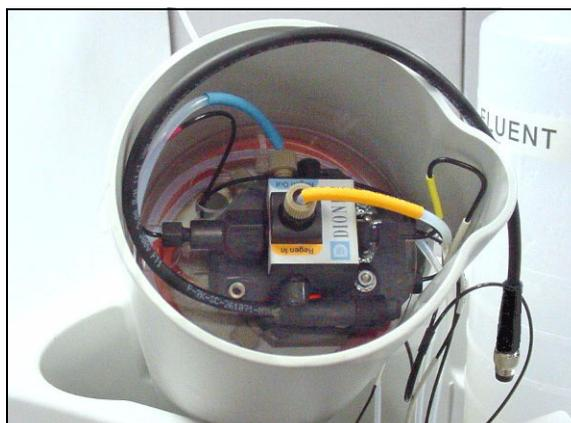

Figure B-31. CR-TC Installed in Holder
5. Check that none of the lines are caught under the CR-TC and then push the CR-TC onto the metal stud inside the EGC holder (see Figure B-31). Push down until the CR-TC snaps into place.